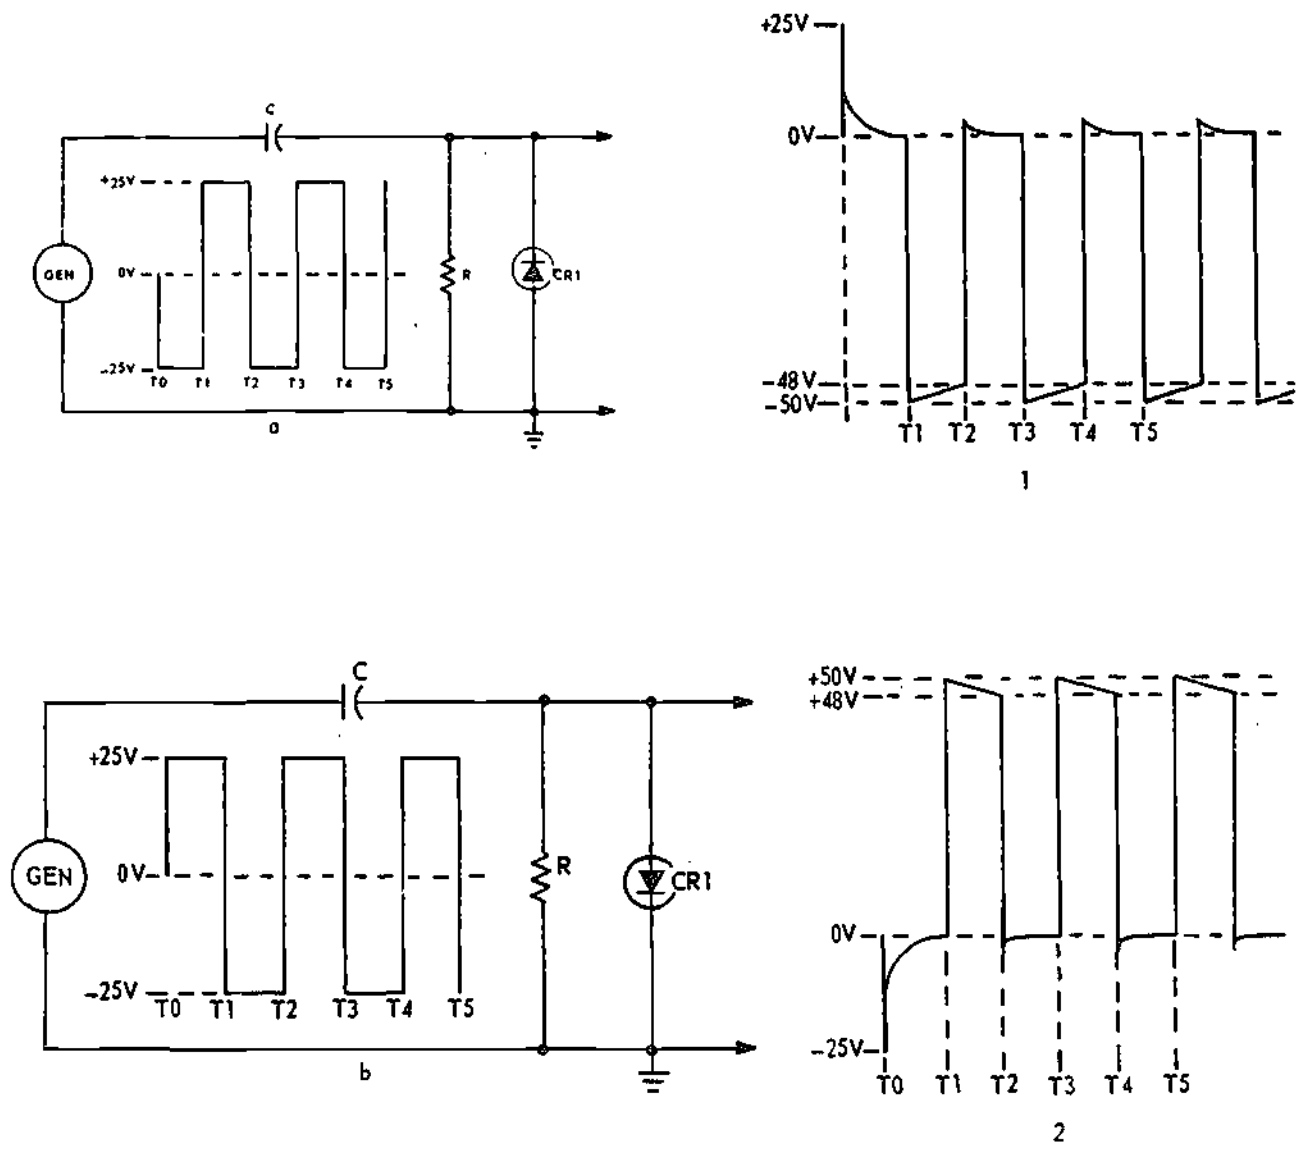

Figure 50-6. Diode Clamper
3. Match figure 50-6 output waveshapes (1 and 2) to the appropriate clamper circuit.